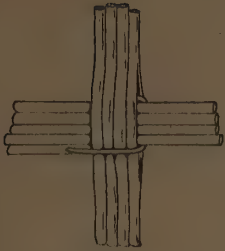

FIG. 6
5. Bring the weaver down, behind the horizontal spokes, and across over the vertical spokes (Fig. 6). Now bring it up, behind
four horizontal spokes, across over the vertical spokes, up behind the horizontal spokes, and across over the vertical spokes (Figs. 6 and 7).